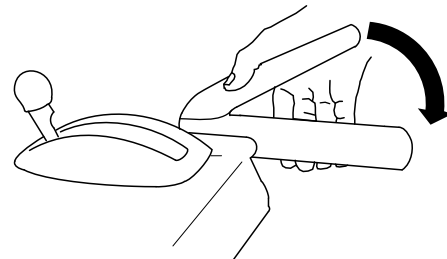

Figure 26
1. To engage the auger/impeller drive, squeeze the right (auger/impeller) lever to the handgrip (Figure 26).